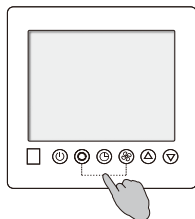

fig.4
1. Hold down Mode button and Fan button for 3s simultaneously to enter parameters customer-reading state, then customer-reading parameter codes will display in temperature display area. (See fig.4)